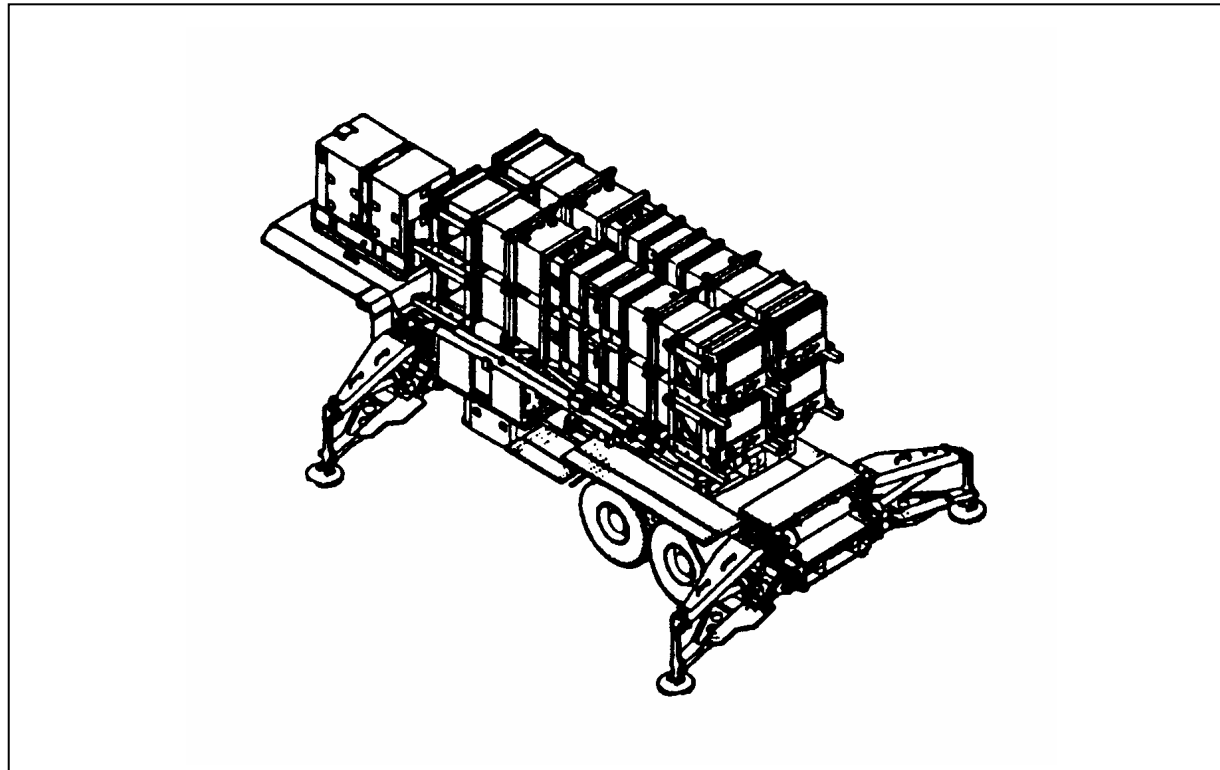

Figure 2-3. LS Missile Reload Position.
ILLUSTRATIONS: Figures 2-3 through 2-14.
(1) Using a diagram, Figures 2-3 through 2-14, a sand table, or a simple sketch in the dirt, show the crew members how missile reload should be done.
(2) Tell the s what their duties are in the drill.
(3) Read the performance measures of the drill to the crew members.
- (4) Have crew members explain their performance measures to ensure that they understand them.